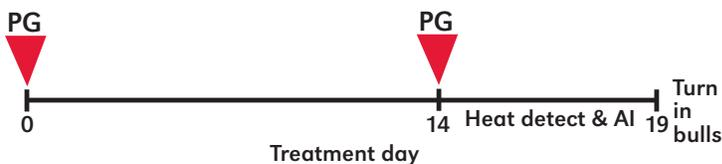

Figure 11. Two-injection prostaglandin with HD.
**Two-Injection Prostaglandin with HD** (Figure 11). An injection of prostaglandin is given to all cows on day 0 with a second injection on day 14. Cows are observed for estrus for the following five days and inseminated 12 hours after they display standing estrus. The two-injection protocols should, theoretically, synchronize estrus in cyclic cows within two to five days after the second injection.